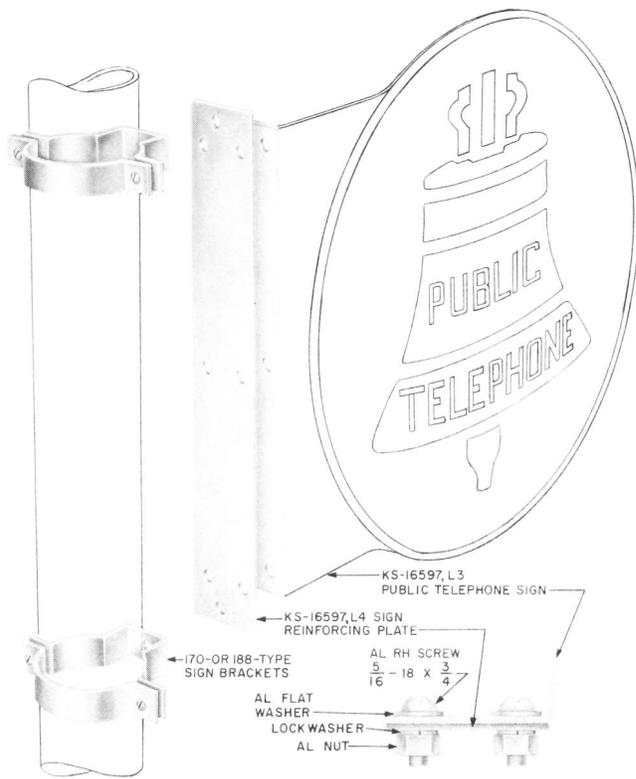

Fig. 8 — KS-16597 Sign and List 4 Reinforcing Plate
3.09 To mount sign KS-16597, List 3 with 170- or 188-type sign brackets, a KS-16597, List 4 reinforcing plate will be required. This prevents buckling. (See Fig. 8.)